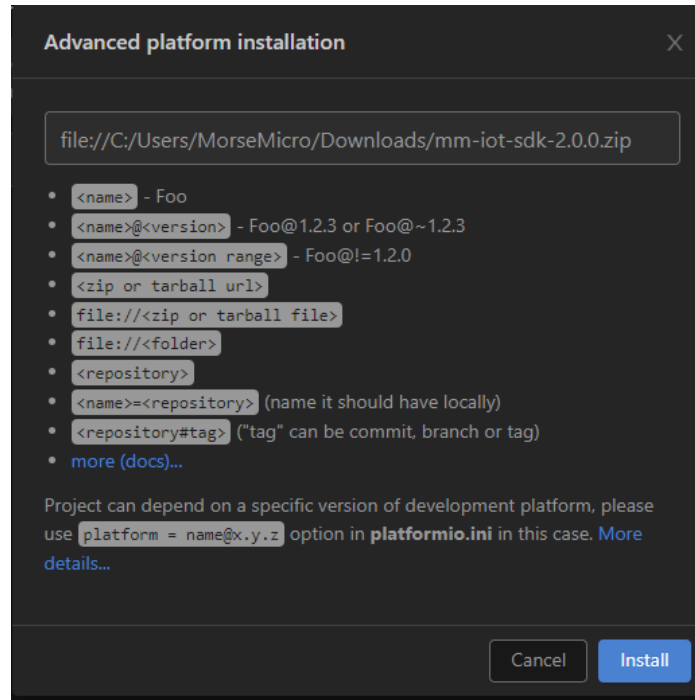

Figure 5. Installation of external platform - zip selection
4. In the Window which pops up (see Figure 5), the user will need to enter the full path to the MM-IoT-SDK.zip file, prefixed with the file:// pseudo protocol. Note, different host platforms have different formats for file paths. For example, if the mm-iot-sdk zip archive is located in the Users download folder, they could look as follows